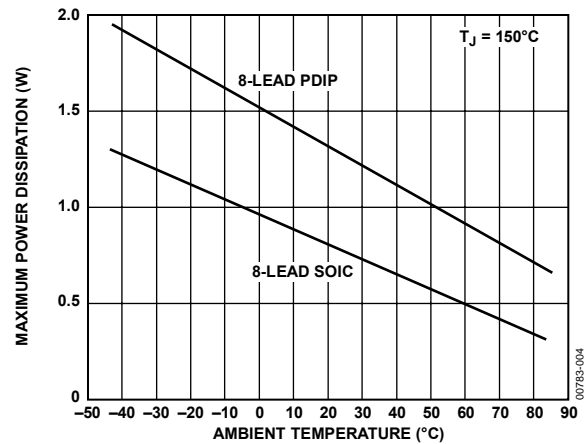

Figure 4. Maximum Power Dissipation vs. Temperature for SOIC and PDIP
| 8-Lead PDIP (N)                         | See Figure 4                                   |
| 8-Lead SOIC (R)                         | See Figure 4                                   |